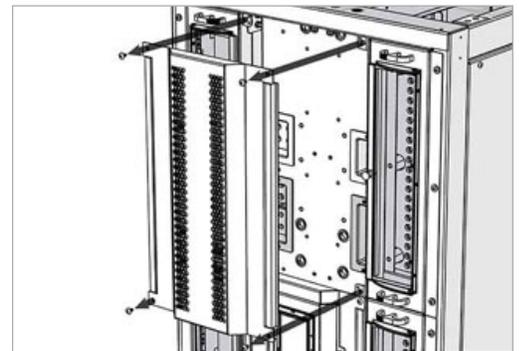

Fig. 1, BDFB front panel removal
3. Remove the two upper front panels of the BDFB by uninstalling (4) Phillips® head screws per panel (Fig. 1).